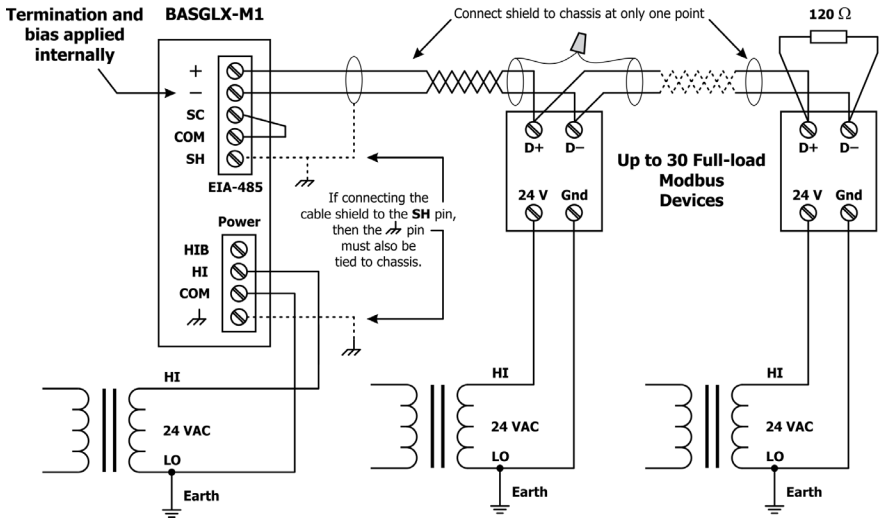

Figure 9 — 2-wire EIA-485 Bus with Separate Power Source
In Figure 9 a simplified schematic of the isolated EIA-485 transceiver is shown. Notice that the transceiver common (SC) is electrically isolated from the gateway power supply common (COM) through the use of opto-isolators and an isolated DC-DC converter. An isolated EIA-485 transceiver offers less chance of damage to the transceiver from high common-mode voltages, but there is still a risk. Surge suppression is applied between the two differential inputs and between each input and ground. Since the transceiver is electrically isolated, the transceiver circuit common must be brought out for connection to the other devices on the EIA-485 network. This is accomplished by pin SC. The differential pair is labelled + and – and requires a three-wire connection to the EIA-485 network. Connecting other isolated EIA-485 devices is no problem since each device requires a 3-wire connection. Just make corresponding connections. For non-isolated EIA-485 devices, usually only a 2-wire connection is provided. The third wire is the power supply common. In this situation, the SC connection **MUST** be made to the power supply common of the non-isolated device. Refer to the device vendor instructions for connecting such a device.